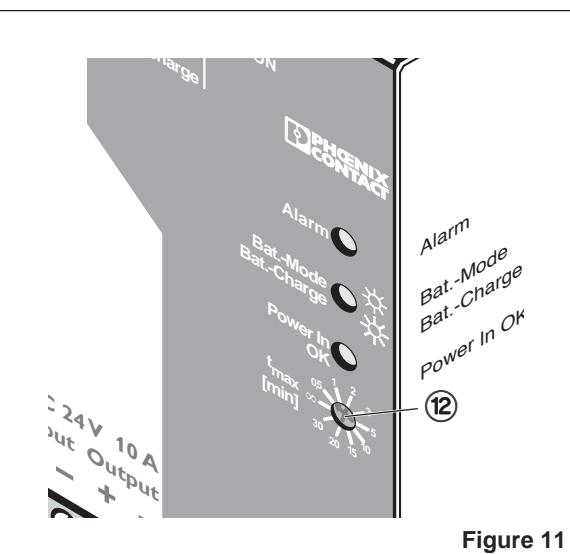

Figure 11
6.1 Buffer Time Setting (Figure 11)